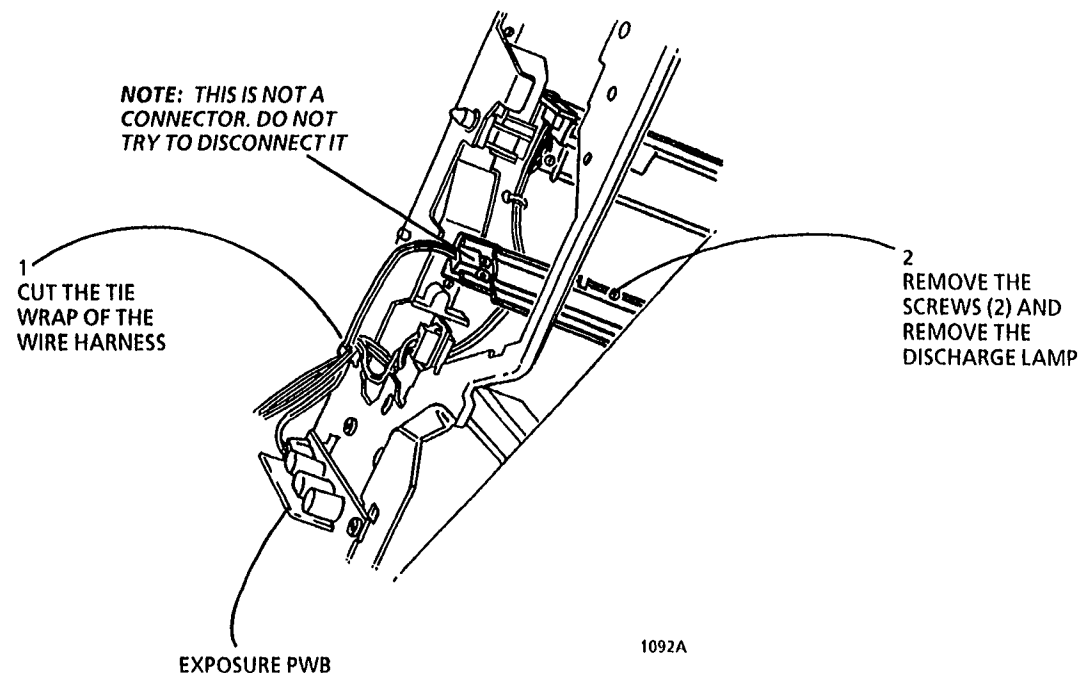

Figure 1. Removing the Discharge Lamp
4. (Figure 1): Remove the Discharge Lamp.